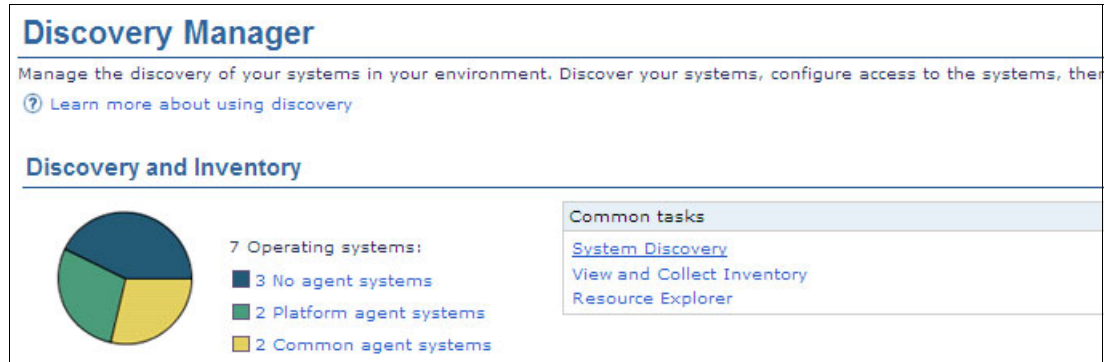

Figure 9-10 Discovery Manager window
1. Go to Discovery Manager as shown in Figure 9-10 and click **System Discovery**.